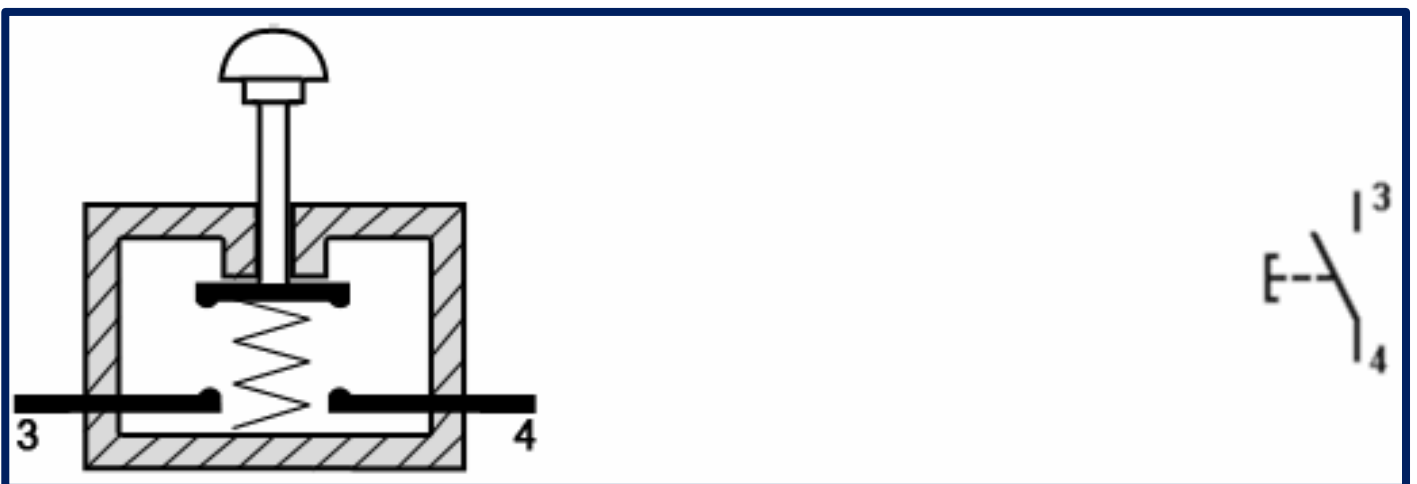

Figure 2.2 : momentary-contact switch in the form of a normally open (NO)
- *In figure 2.2* shows a momentary or push button-normally open (NO) contact switch regarding a circuit symbol according to DIN EN 60617-7 (right - switch operated by manual pushbutton).